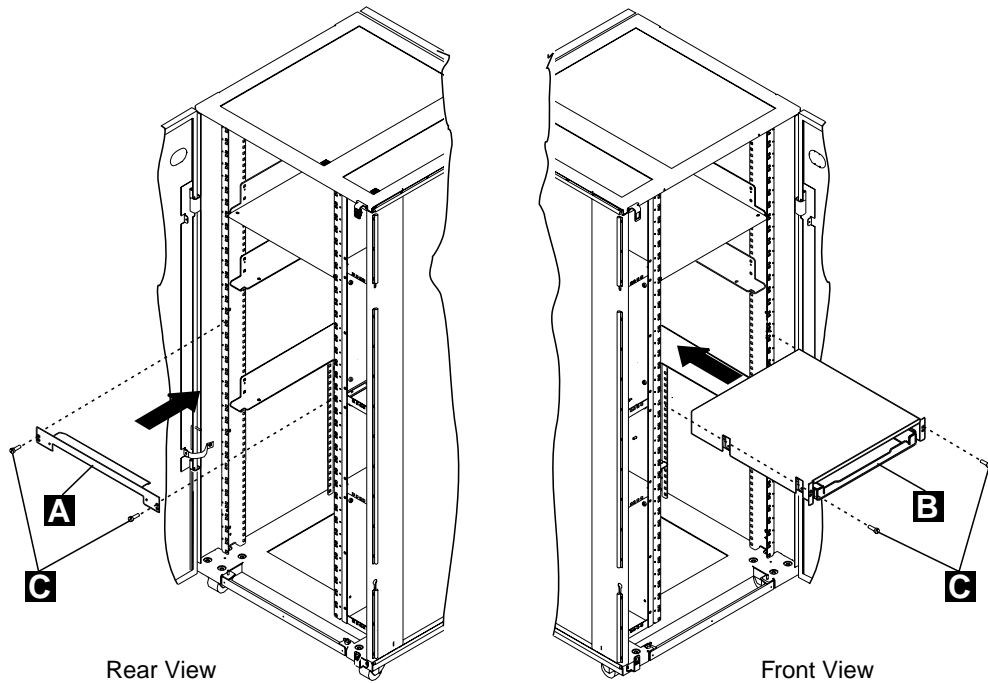

Figure 1-36. Installing the Service Drawer
13. ____ Refer to Figure 1-36, on the rear side of the controller expansion, install bracket **A** using two screws **C** (PN 1621230).